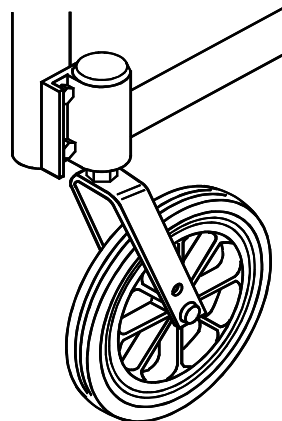

Fig. 40
The castor plate (Fig. 40) is generally mounted in a forwards facing position (1). However, if additional footrest clearance is necessary, the castor housing can be reversed (2), by moving the left housing on to the right side of the frame, and the right housing on to the left side of the frame. After reversing the castors follow the procedure for castor angle adjustment to reset the angle of each castor.